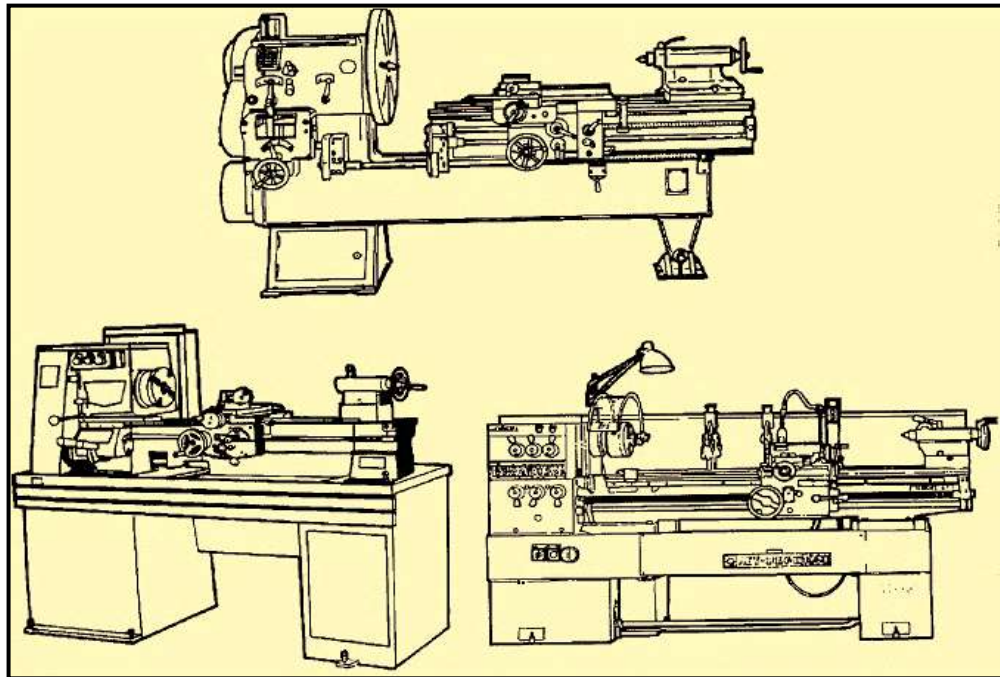

Figure 7-2. Lathe categories.
**Categories:** Slight differences in the various engine lathes make it easy to group them into three categories: lightweight bench engine lathes, precision tool room lathes, and gap lathes, which are also known as extension-type lathes. These lathe categories are shown in Figure 7-2. Different manufacturers may use different lathe categories.